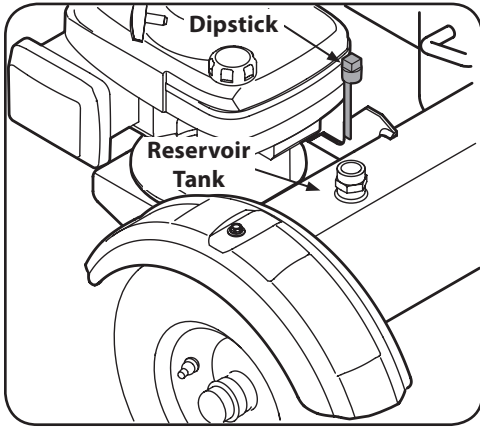

Figure 2-9
2. Remove the dipstick located in front of the engine and on top of the reservoir tank. See Figure 2-9.
3. Check the fluid level using the dipstick. See Figure 2-9. Do not overfill.